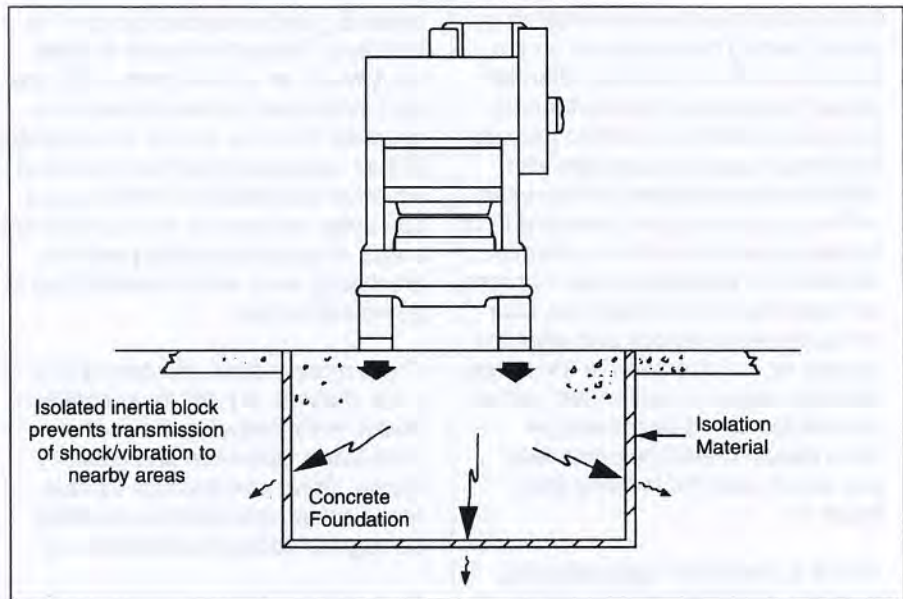

FIGURE 3
3. Slide inertia forces result from acceleration forces acting on the slide and are an extremely important consideration in the design of a press mounting system. They act primarily in the direction of slide travel and tend to alternately lift the press from its supporting surface and push it back into its supporting surface. In some high speed presses it is possible for these forces to exceed the dead weight of the press. This condition establishes a limitation as to whether or not a press should be mounted on freestanding mounts. Machines which are manufactured with dynamic balancing equipment do not have this problem, and can safely be mounted on press mounts. Older high speed presses should be securely bolted down, and are good candidates for isolated foundations (see figure 3).